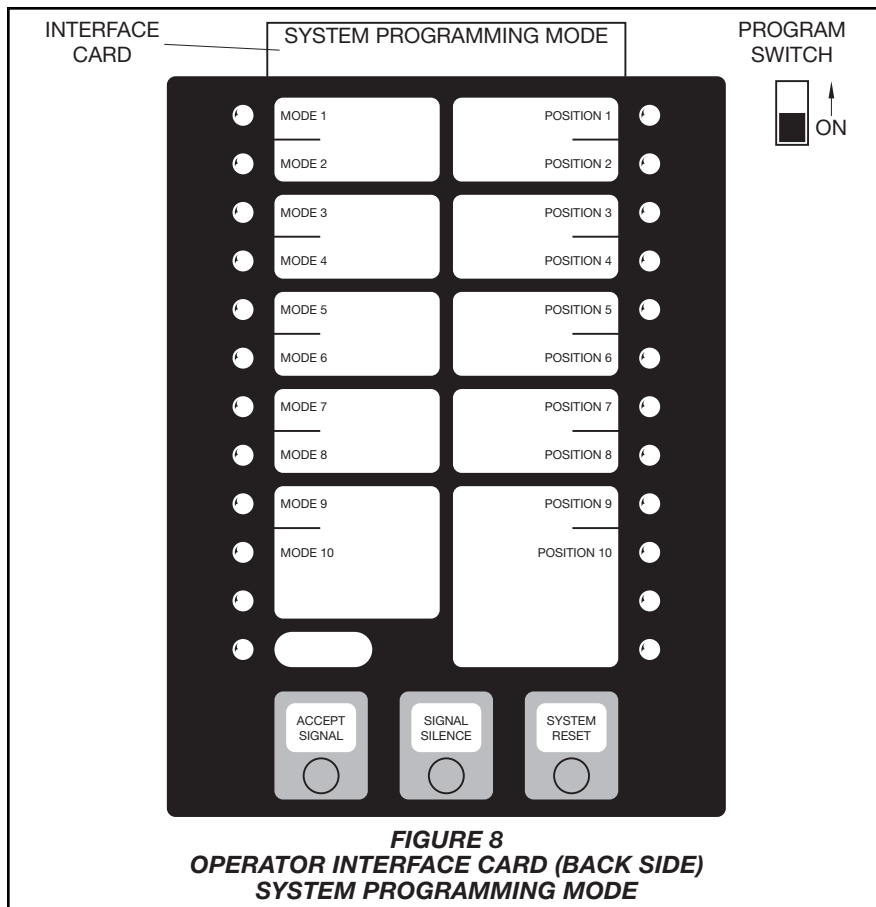

FIGURE 8
Step 1. With reference to Figure 8, remove the Operator Interface card and reinsert it so that the SYSTEM PROGRAMMING MODE information listed on the card's back side faces front.
Step 2. Place the PROGRAM SWITCH (Figure 8) to the ON position and then momentarily press the ACCEPT SIGNAL KEY to accept the resulting programming mode trouble.